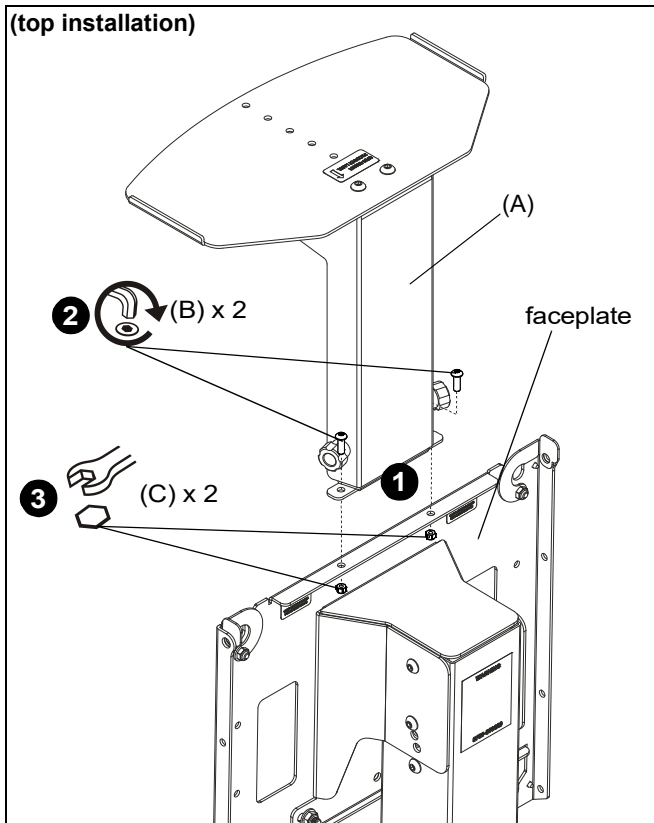
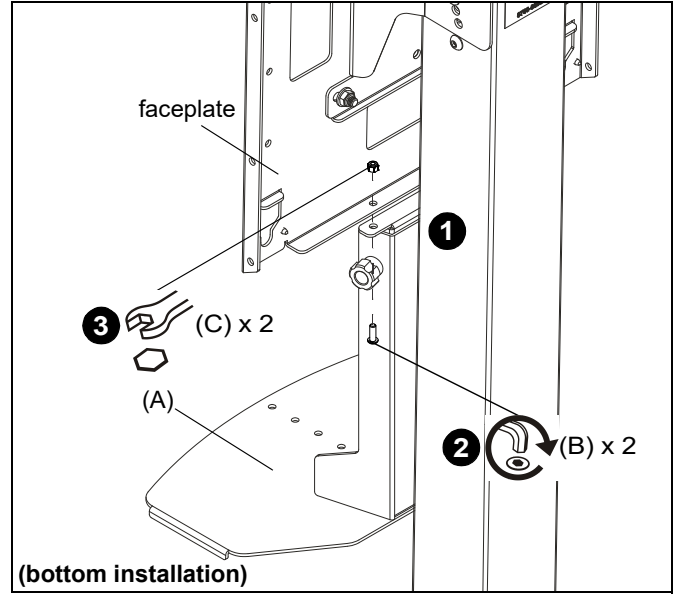

Figure 1
Figure 2
1. Position video conferencing shelf (A) above or below the faceplate making sure to line up the holes on the shelf with the holes on the faceplate. (See Figure 1) or (See Figure 2)
2. Install two 1/4-20 x 3/4" button head cap screws (B) through holes in shelf (A) and faceplate. (See Figure 1) or (See Figure 2)
3. Thread two 1/4-20" lock nuts (C) onto screws (B) to secure shelf (A) to faceplate. (See Figure 1) or (See Figure 2)